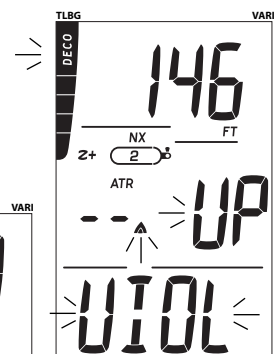

Fig. 69 - VGM DIVE MAIN
**VGM Dive Main**, information includes (Fig. 69) -